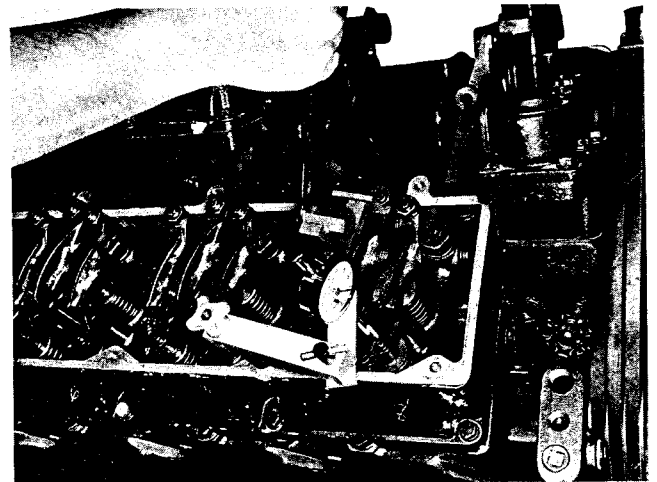

Fig. 2-39, (V514128). Bottoming injector plunger in cup — V-903
2. Screw injector lever adjusting screw down until plunger is bottomed in cup, back off approximately 1/2 turn then bottom again, set dial indicator at zero (0).
4. Using ST-1251 Rocker Lever Actuator, bottom injector plunger, check zero (0) setting. Fig. 2-39. Allow plunger to rise slowly, indicator must show plunger travel to be within range specified in Table 2-8.